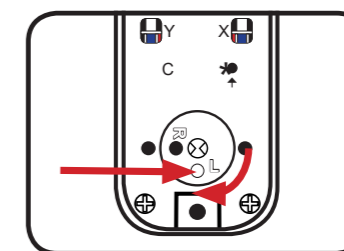

Fig.4
3. Using the tweezers (**Part No.10**) remove the handing pin located in 'R' hole and rotate the handing disc clockwise so that the 'L' is on the bottom as per Fig.4.